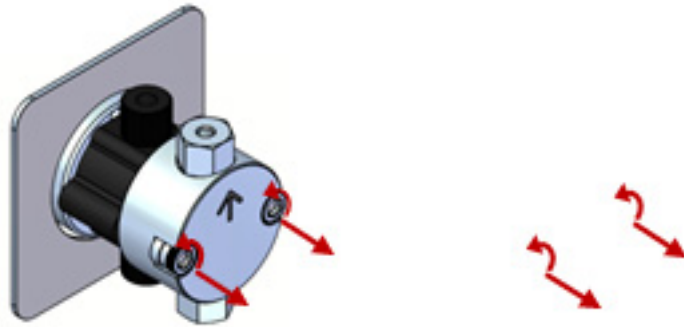

Figure 6-9 Removing the fasteners
8. Remove the two pump head fasteners. Use the supplied 3/16" hex wrench (Figure 6-9).